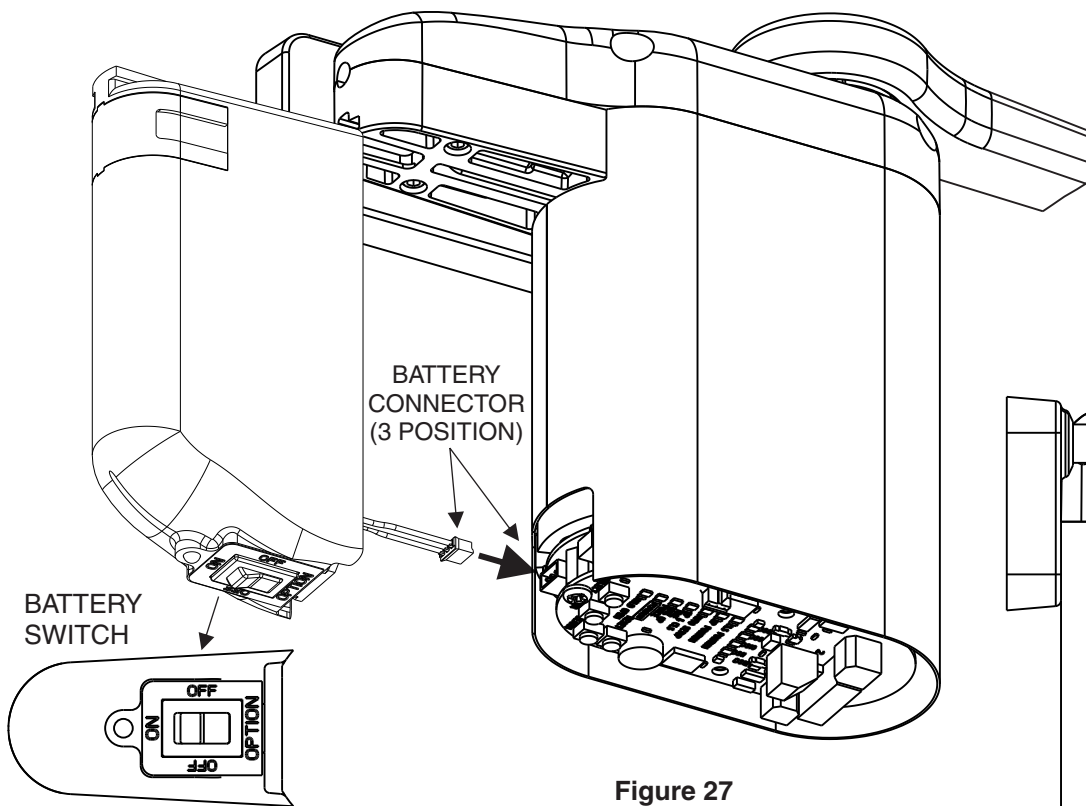

Figure 27
1. Refer to Figure 27 and switch the ON/OFF/OPTION switch to the OFF position.